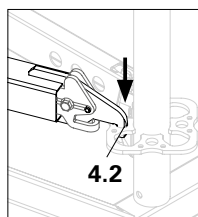

Fig. A1.11c
- Attach hook with slider (4.2) to the rosette. (Fig. A1.11c)
→ Securing mechanism is released. (Fig. A1.11c)